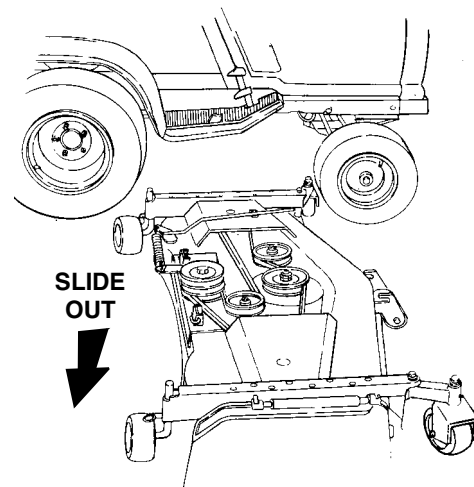

Figure 55
- With the tractor implement lift handle raised to its highest setting, slide the deck to the right and out from under the tractor (Refer to Figure 55).